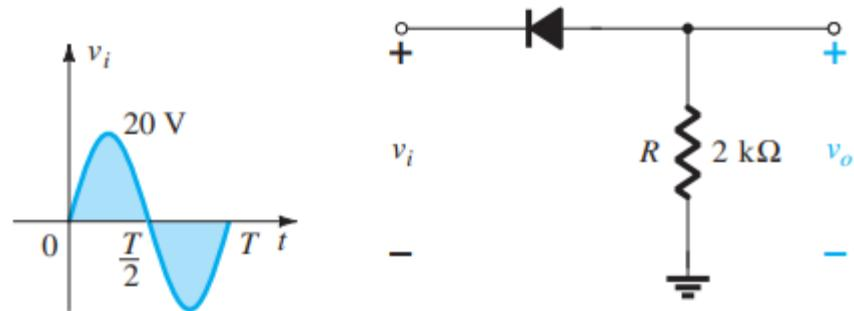

FIG. 2.49
- Sketch the output v_o and determine the dc level of the output for the network of Fig. 2.49 .